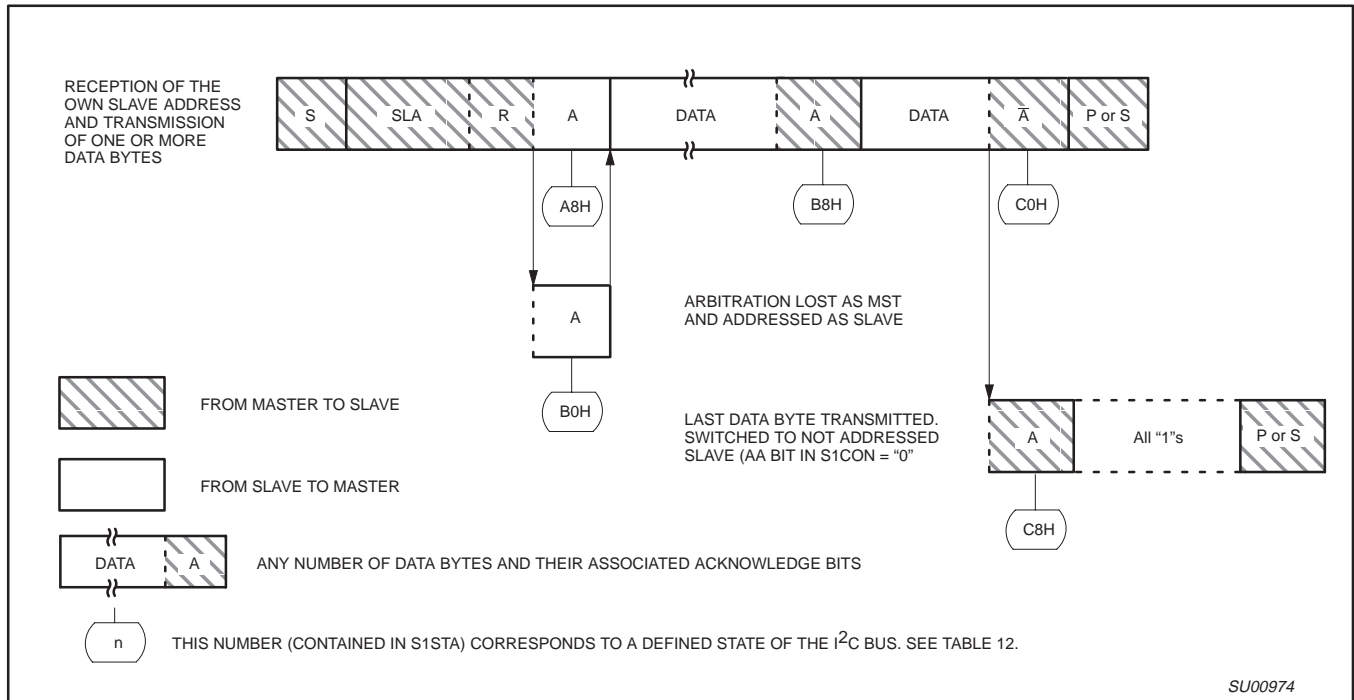

Figure 25. Format and States of the Slave Transmitter Mode
**Slave Transmitter Mode:** In the slave transmitter mode, a number of data bytes are transmitted to a master receiver (see Figure 25). Data transfer is initialized as in the slave receiver mode. When S1ADR and S1CON have been initialized, SIO1 waits until it is addressed by its own slave address followed by the data direction bit which must be "1" (R) for SIO1 to operate in the slave transmitter mode. After its own slave address and the R bit have been received, the serial interrupt flag (SI) is set and a valid status code can be read from S1STA. This status code is used to vector to an interrupt service routine, and the appropriate action to be taken for each of these status codes is detailed in Table 12. The slave transmitter mode may also be entered if arbitration is lost while SIO1 is in the master mode (see state B0H).